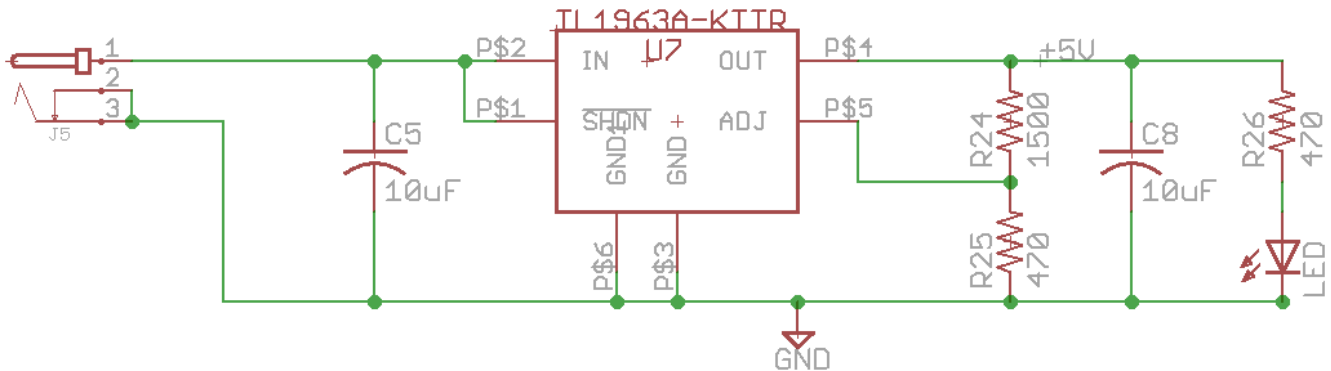

Figure 3:
6. In this question you will be commanding/controlling two RC servos. Your first step will be to solder the 5V regulator to the board in order to power the RC servos. Using Figure 3 and the demonstration board found in lab as a guide, solder the 5V regulator (TL1963A-KTTR), the surface mount parts: two 10uF Capacitors, two 470ohm resistors and one 1.5Kohm resistor, a LED, and power connector to the board. All the soldering positions for these components are found on the breakout board close to the LaunchPad..